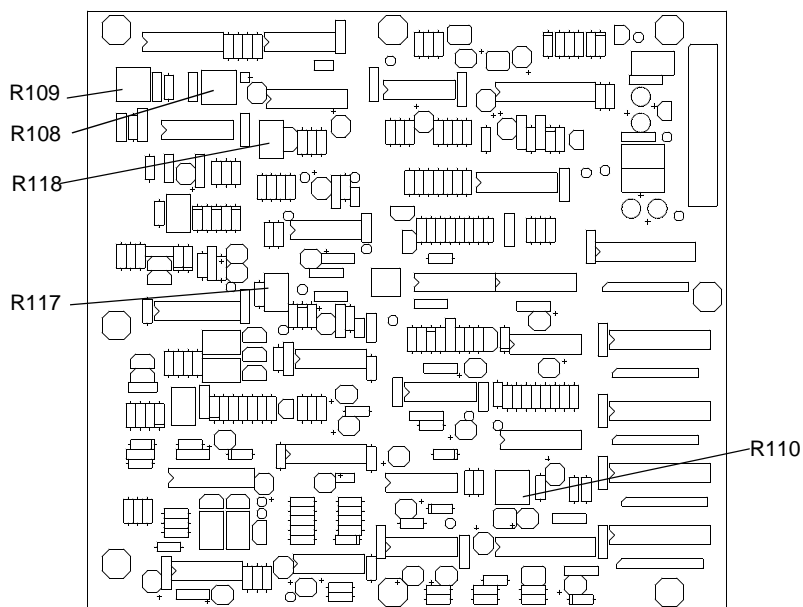

Figure 6-1. A3 PCB Adjustments
- Step 8.** On the A3 PCB, adjust variable resistor A3R108 (Figure 6-1) to obtain a displayed **L** value of 0.00 ± 0.01 .
- Step 12.** Adjust A3R118 (Figure 6-1, page 6-5) to obtain a cursor readout of $+9.00$ dBm ± 0.01 dBm.
- Step 20.** Use A3R117 (Figure 6-1, page 6-5) to adjust the R channel gain, as necessary.